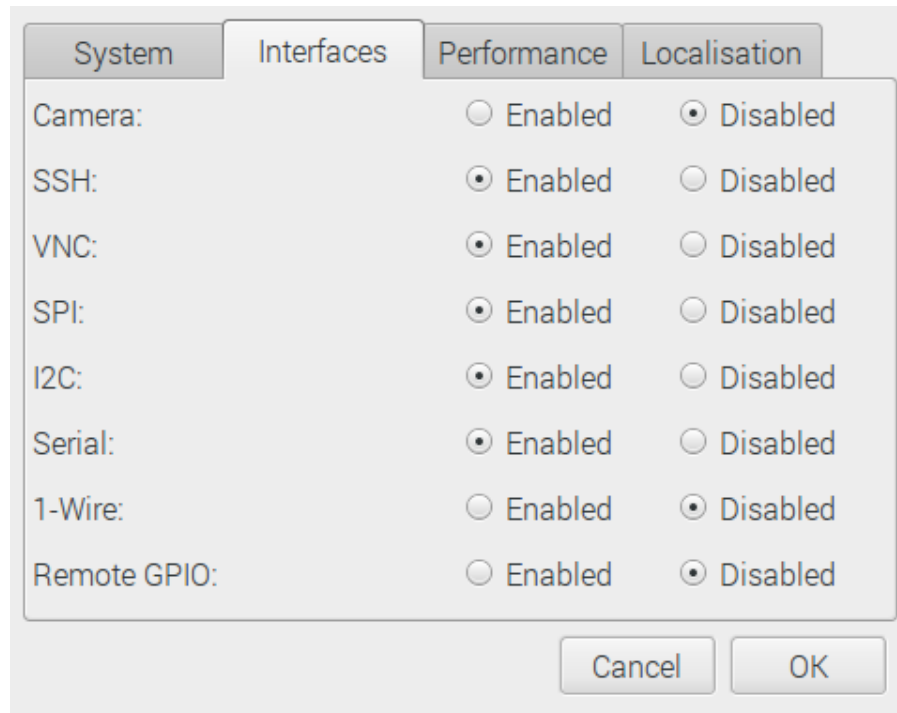

Figure 7: Raspberry Pi interface configuration
1. Next, the peripherals have to be enabled. To do so open the menu by clicking on the Raspberry Pi symbol on the left upper corner of the screen and open the **Preferences** → **Raspberry Pi Configuration** window (see figure 7). Enable the SPI, I2C and SERIAL interface.